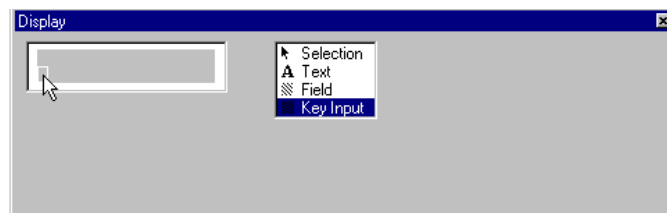

Figure 2-60 Select Where Key Input Area Begins
2. Click in the display area where you want the key input area to begin (Figure 2-60).